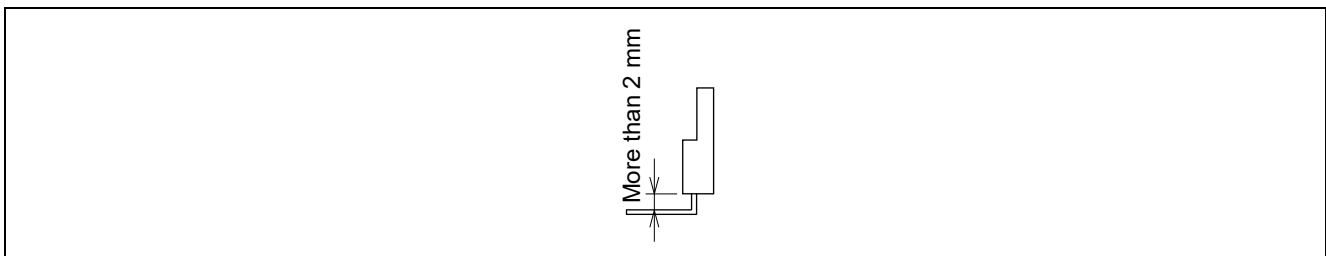

Figure 16 Bending leads in perpendicular direction
- (c) When bending the lead perpendicular to the marking surface, bend it at a point at least 2 mm away from the main body as shown in the figure 16.